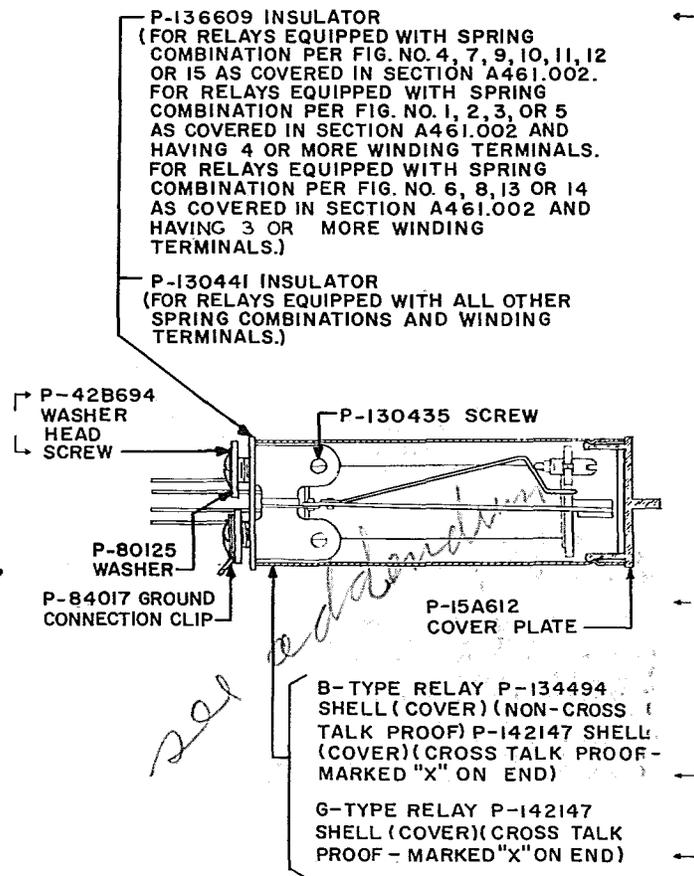
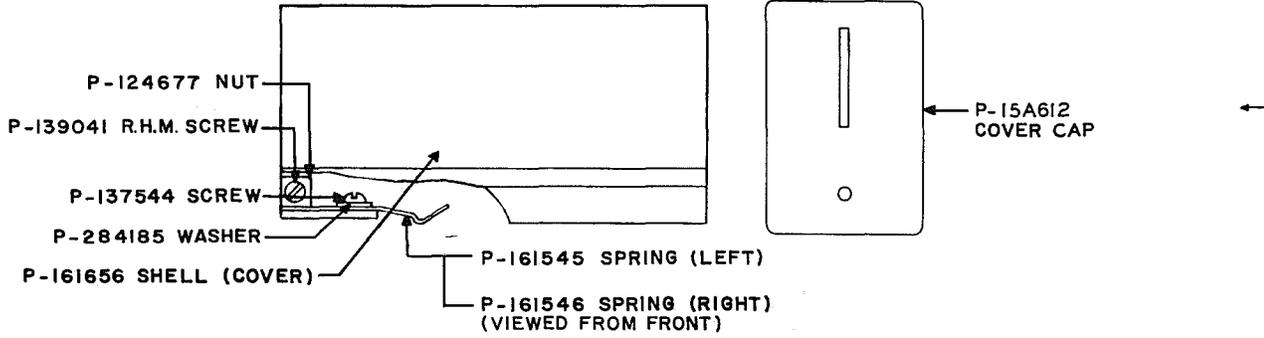

Fig. 2 - B- and G-type Relays - Bottom View - Initial Design
Fig. 7A
3. To delete the mounting screw and washer piece-part information and substitute a washer head screw for the B- and G-type relays (Initial Design) and the J-type relays (Figs. 2 and 7D).
4. To revise piece-part information of the cover cap for B- and G-type relays (Initial Design) (Fig. 2) and the J-type relays (Figs. 7A, 7B, and 7D).
5. To revise piece-part information on parts as required (Figs. 2 and 5).